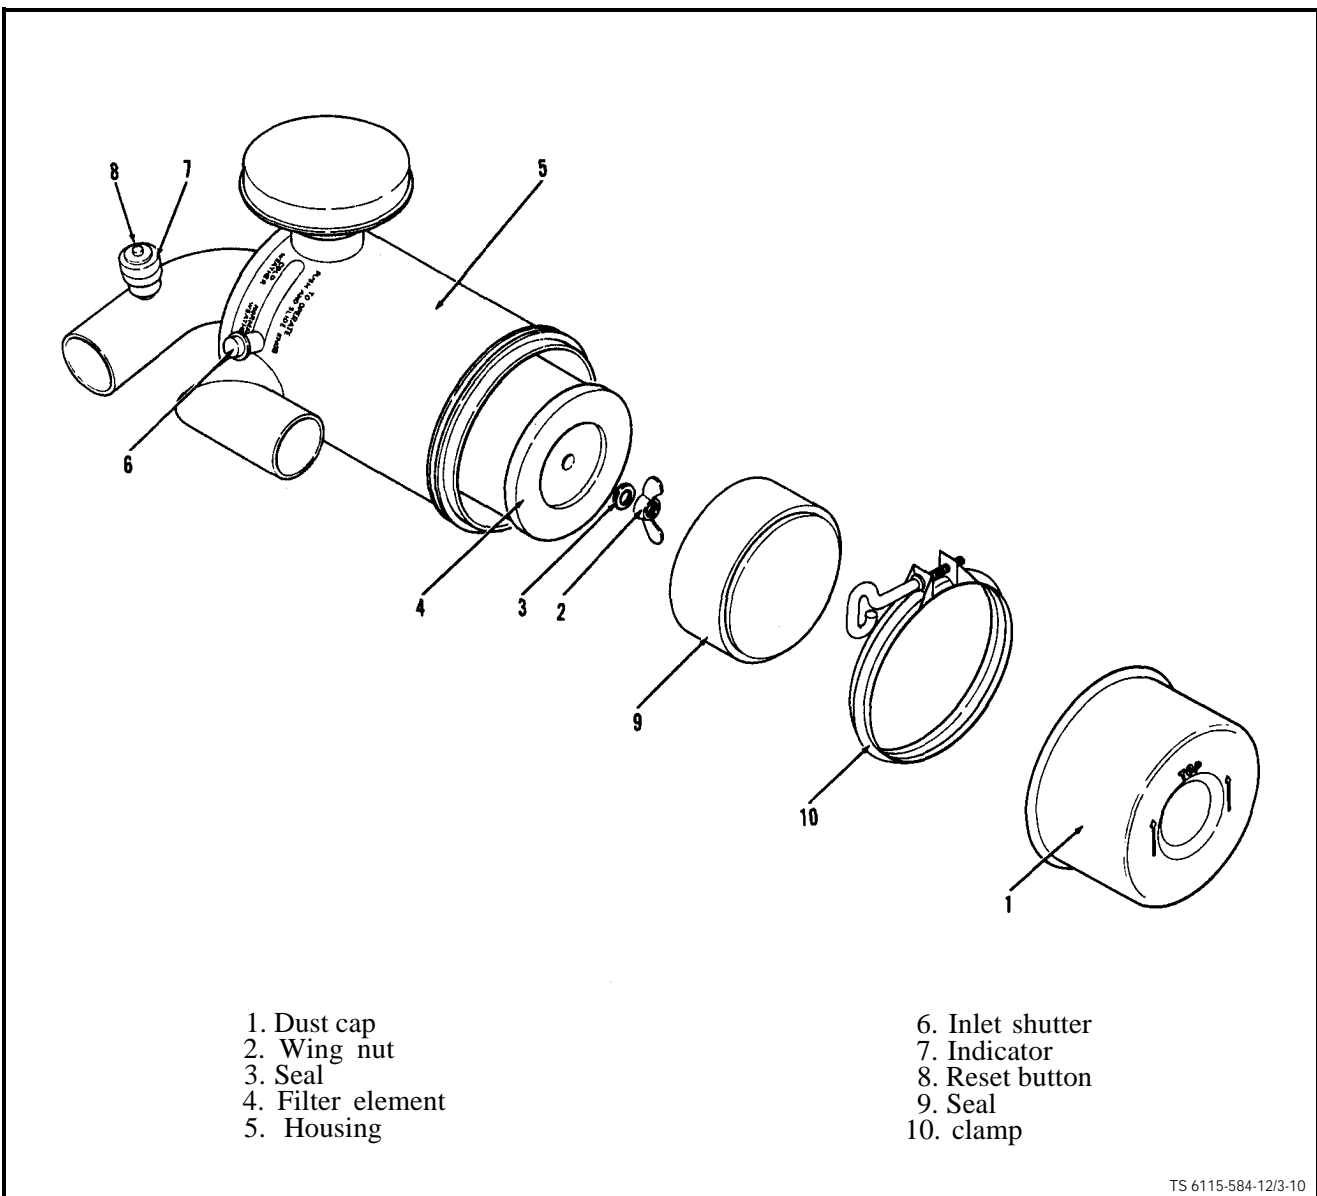
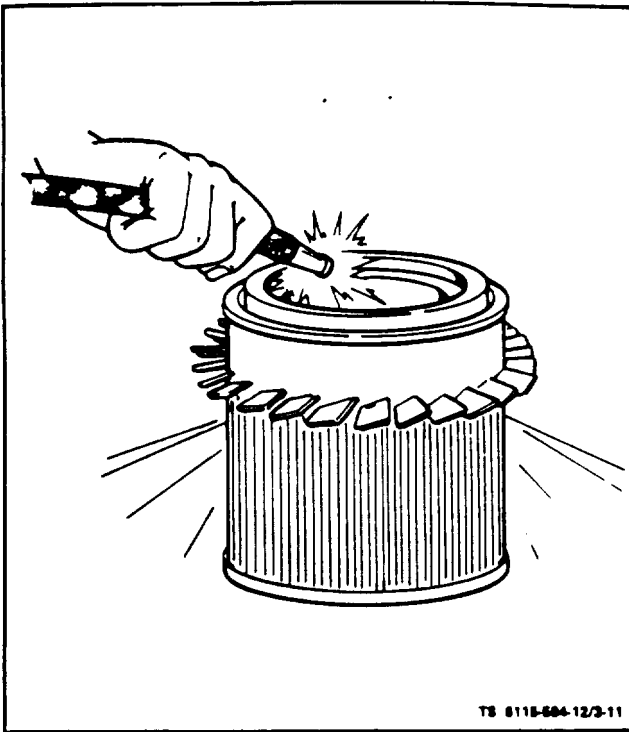

Figure 3-10. Air Cleaner Assembly
Figure 3-11. Cleaning Air Filter Element
(2) Bracket Assembly. Inspect bracket assembly (1) to see that it is securely fastened to generator housing (2). check that capscrews (3) and lockwashers (4) which attach bracket to generator housing, and three spacers (5) are in place.
(3) Inlet Shutter (see figure 3-10). Check inlet shutter (6) to see that it slides easily from COLD WEATHER to NORMAL WEATHER position and back.
(4) Air Flow Indicator (see figure 3-10). Check air flow indicator (7) for dirt, grease, or physical damage.
(1) Dust Cap (see figure 3-10). Every 100 operating hours (more frequently in dusty areas) service dust cap (1) by removing cap from air cleaner housing (5), removing rubber seal (9), and cleaning out any dirt or debris. The clamp (10) is loosened to remove dust cap and seal.
(2) Air Cleaner Element (see figure 3-10). Every 1000 operating hours, or more frequently as conditions dictate, or when red warning on air flow indicator becomes visible, clean or replace air cleaner element (4). To remove the element remove dust cap (1) and seal (9). Remove wing nut (2), seal (3) and remove element (4). To clean element, direct dry clean air up and down pleats on the inside of the element. (See figure 3-11.) If element is very dirty, wash it by soaking in mild detergent and water. Soak for fifteen minutes or more. Rinse element thoroughly with clean water from hose (maximum pressure 40 psi). Air dry completely a minimum of 24 hours before re-using. Do not dry with compressed air or heat over 150° F (66° C).
(1) Air Cleaner Element. Slide element (4, figure 3-10) over stud in housing (5), install seal (3) on wing nut (2) and secure element with wing nut (2). Hand tighten wing nut. Install seal (9) and dust cap (1). Be certain "Top" on dust cap faces up. Retighten clamp (10) to secure dust cap.